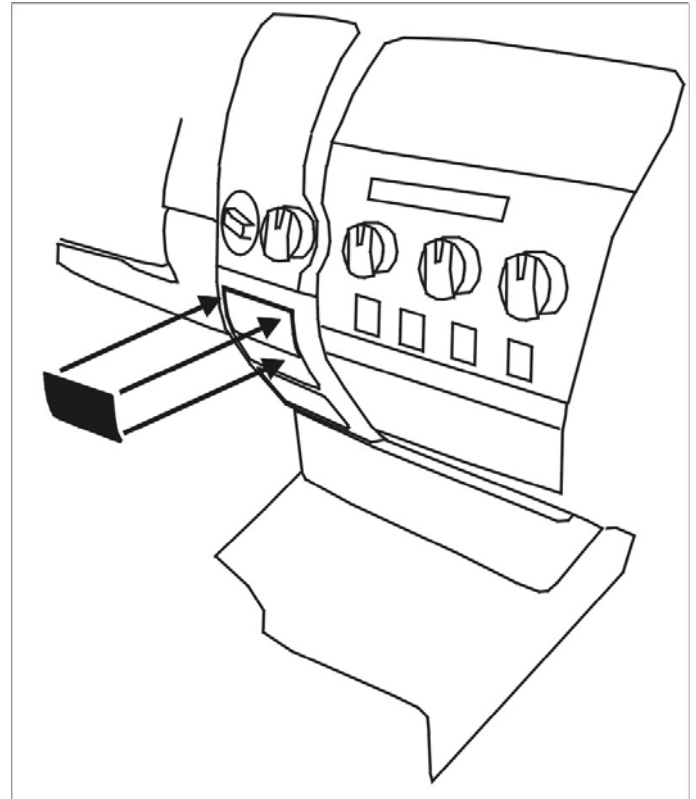

Fig. 4-2
(1) Console: Align part uniformly to edge of factory components aligning all switch openings.
(2) Storage Lid: Align part uniformly to edge of factory storage compartment. (Fig. 4-2)